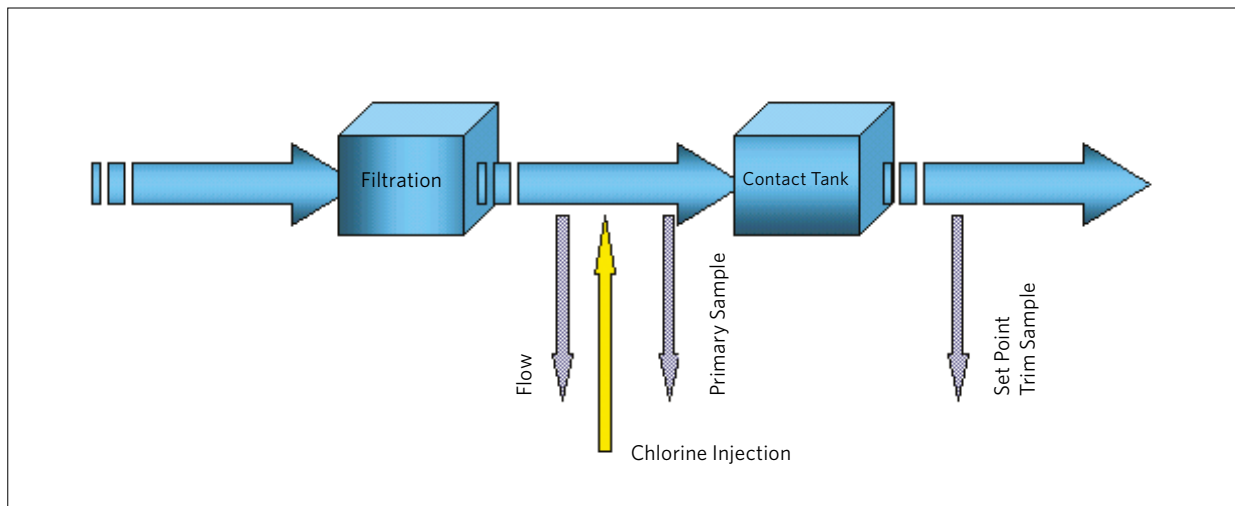

Fig.1 Primary and set point trim control
- For a chlorination control system, there should be a minimum of 45 seconds of contact time a maximum flow rate between the point of complete mixing (not the injection point) and the inlet to the residual cell (see Fig 1 below)